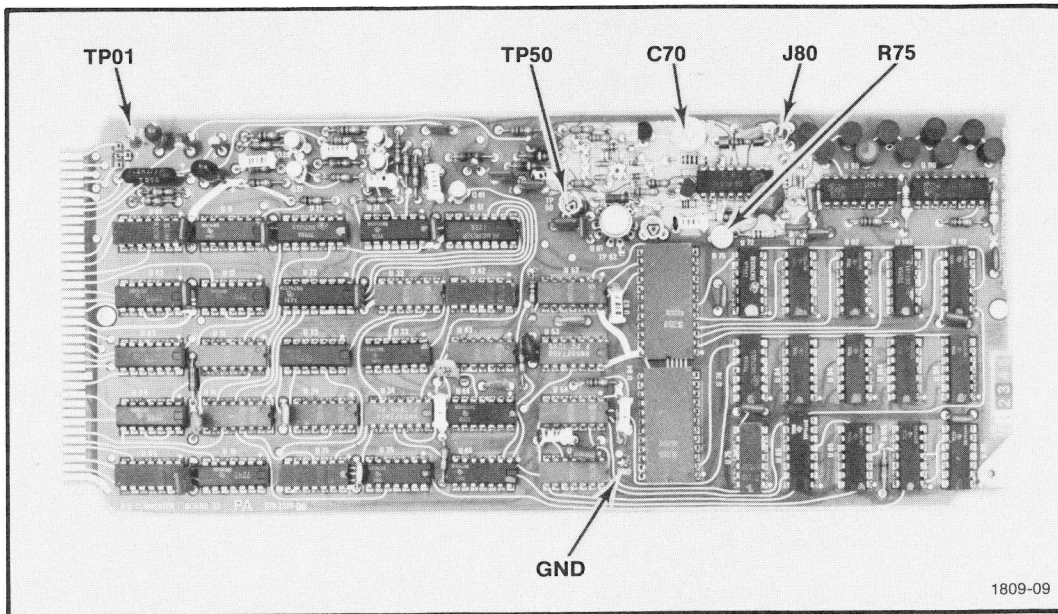
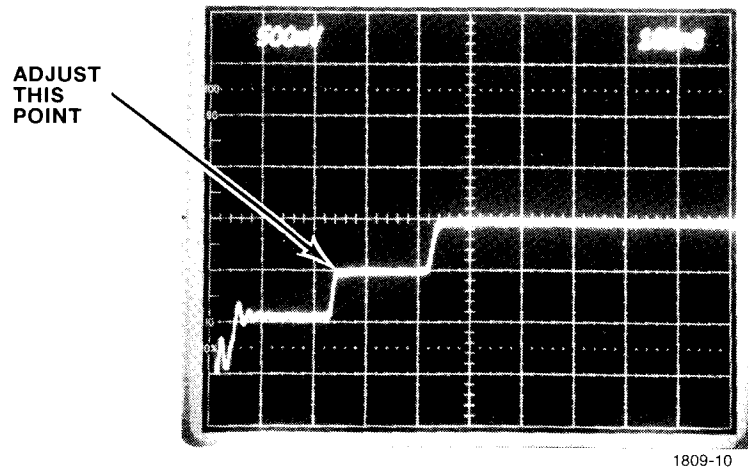

Fig. 3-1. Test Point Locations.
Fig. 3-2. Displayed trace for MSB COMP adjustment.
5. Connect the probe from the Time Base, EXT TRIG IN to TP01 (SAMPLE COMMAND) on the A-D Converter card, see Fig. 3-1.
6. Connect the probe from the Vertical Amplifier INPUT to TP50 (plug-in type) on the A-D Converter card. see Fig. 3-1.
7. Set the Time Base Trigger Level/Slope for a stable display as shown in Fig. 3-2.
8. If the front corner of the second positive pulse shows any overshoot or rounding adjust MSB COMP (C70), see Fig. 3-1, for the best square corner on the leading edge. Fig. 3-2 shows the correct adjustment of MSB COMP.
8. Set LSB GAIN, see Fig. 3-1, a few degrees to either side of its present setting. Press Program Call button #1 and observe the display when averaging is completed. This procedure must be repeated several times until the display is essentially free of the 32 spikes above or below the noise line. More resolution can be obtained by pressing Program Call button #2 or #3 to increase the number of averages. Fig. 3-3C shows the display when LSB GAIN is properly adjusted.